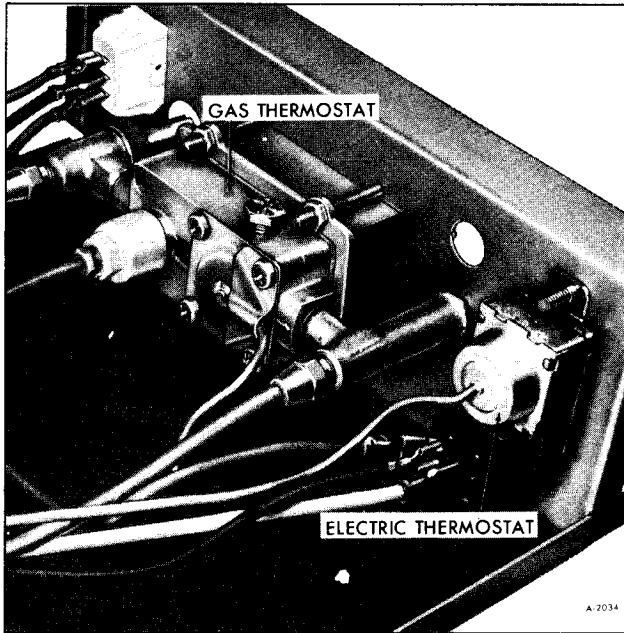

Figure 7—Thermostats
9. Remove four nuts and bolts retaining gas thermostat to control pan, and remove thermostat (figure 7).
## ELECTRIC THERMOSTAT REMOVAL (FIGURE 7)